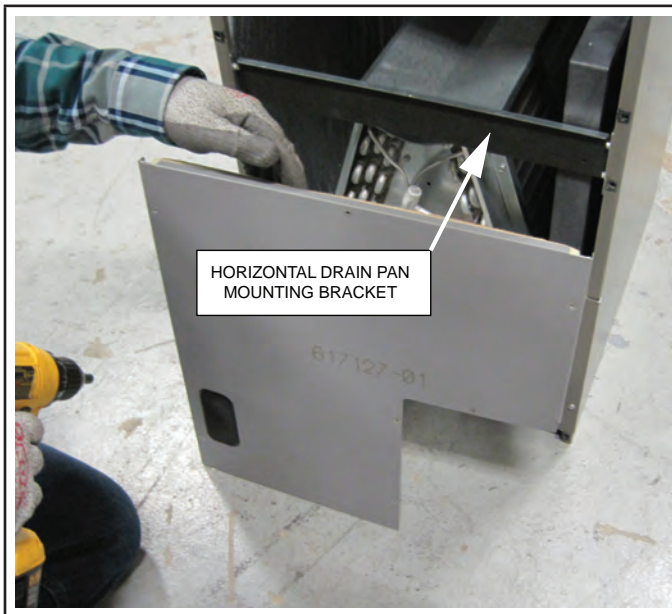

FIGURE 4. Remove Horizontal Drain Pan Mounting Bracket
- 3 - Remove horizontal drain pan mounting bracket (see figure 4). This bracket will not be reinstalled for downflow air discharge applications.